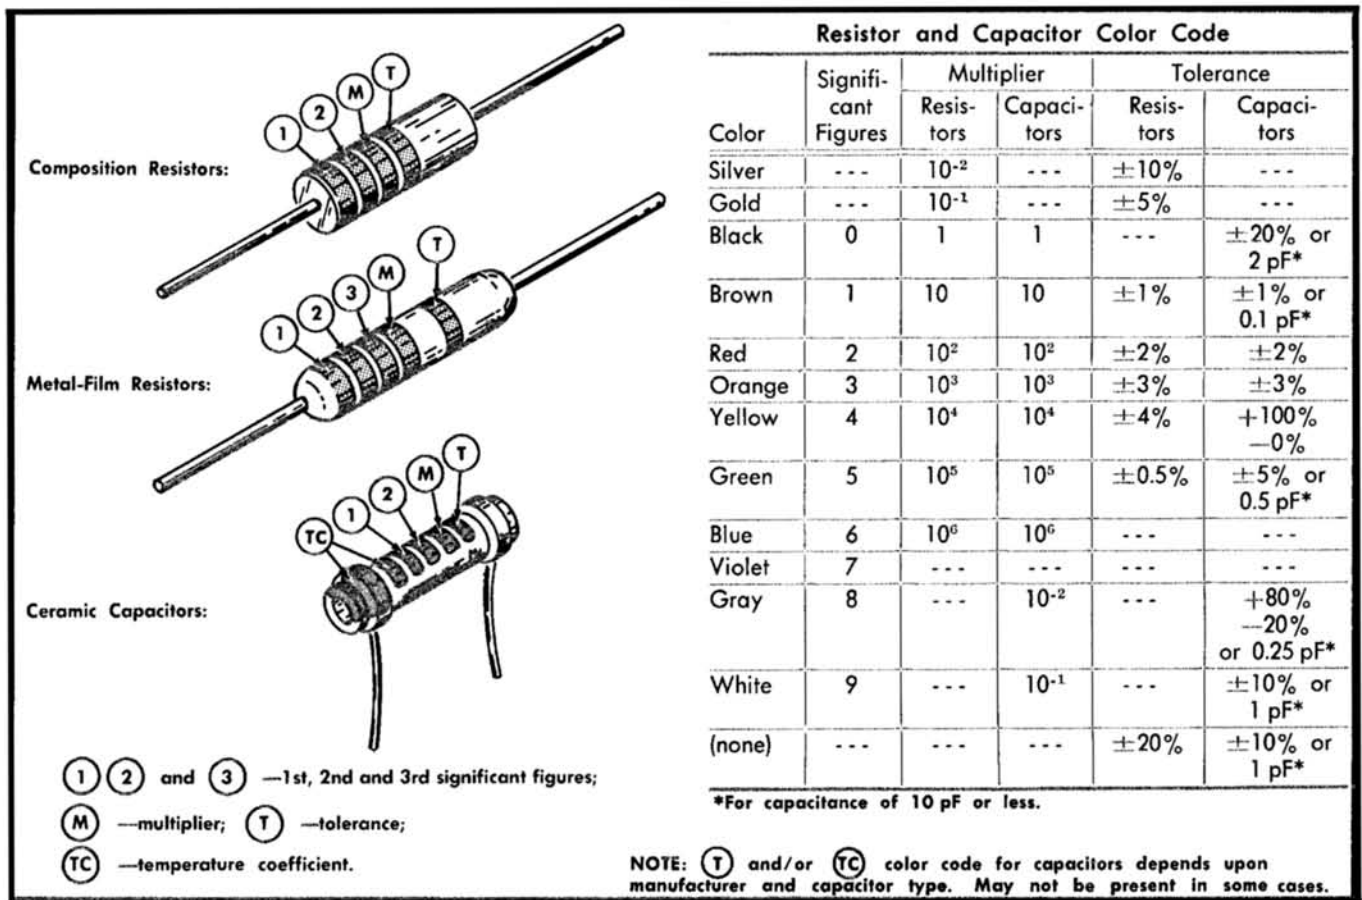

Fig. 4-4. Color code for resistors and ceramic capacitors.
**Capacitor Marking.** The capacitance values of common disc capacitors and small electrolytics are marked on the side of the component body. The white ceramic capacitors used in the 7623 are color-coded in picofarads using a modified EIA code (see Fig. 4-4).